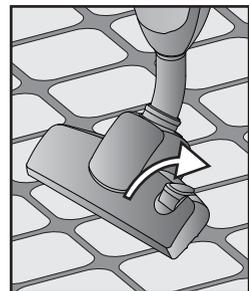

Fig. 5
- To clean smooth floors, like PVC, parquet or tiles the use of the bristles is suggested. Pull out the Bristles from the brush you must push the selector (I) downwards (Fig. 5).